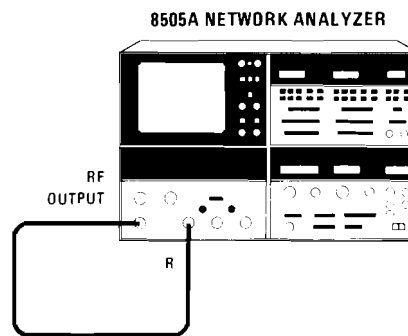

Figure A5-46. A3A27 Blanking Amplifier Adjustment Test Setup
- i. Connect equipment as shown in Figure A5-46.